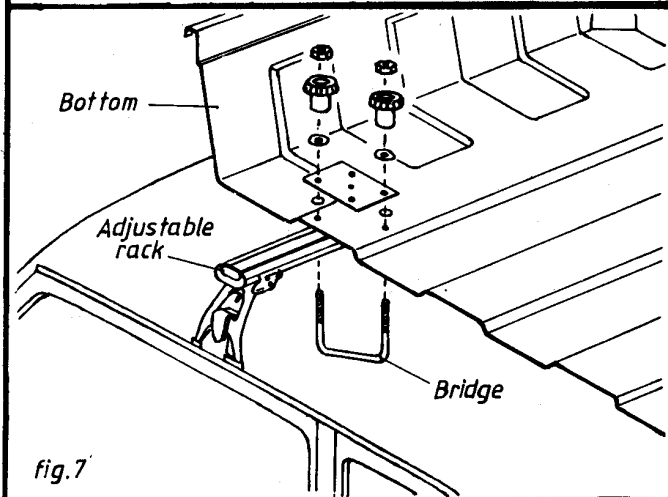

fig. 7
(Fig.7): Montieren mit Montagesatz nr. 50 0000 23: Mounting bridges (separat zu bestellen).
- 4. With bridges on the carrier of the vehicle (fig. 7):** Installation with the use of the mounting set nr. 50 0000 23: Mounting bridges (to be ordered separately).